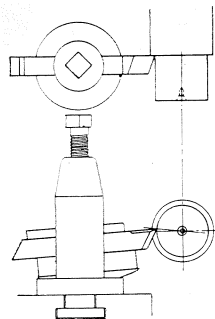

Fig. 4—Cutting Mild Steel or Cast Iron
**ANGLE OF TOOL TO WORK.** The angle of the cutting tool to the work varies according to hardness of the metal being cut. The accompanying drawings (Figs. 4 to 6) show in general the proper angles to be used for the different classes of metals. Refer to these drawings before taking a cut until you are sure you know the proper angle for each metal.